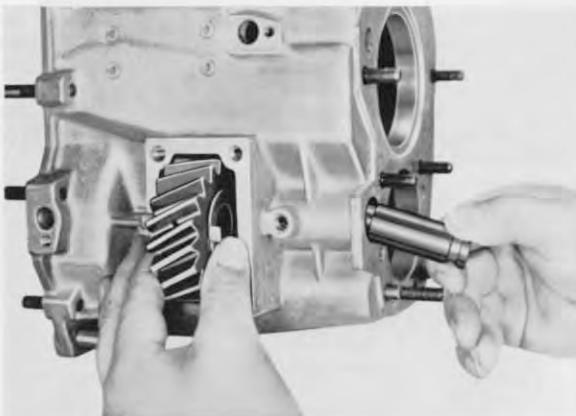

Fig. 24
1. Put needle cages (503) into reverse gear bore (502) and stick needles with grease. Stick a thrust washer (501 and 510) on each side of the wheel with grease (the turned down flaps lie outwards). Put the reverse gear into the housing. Push the reverse idler shaft with the smaller Ø first into position in the housing bore from the output side (Fig. 24). Take care that the thrust washers are not damaged by the shaft.